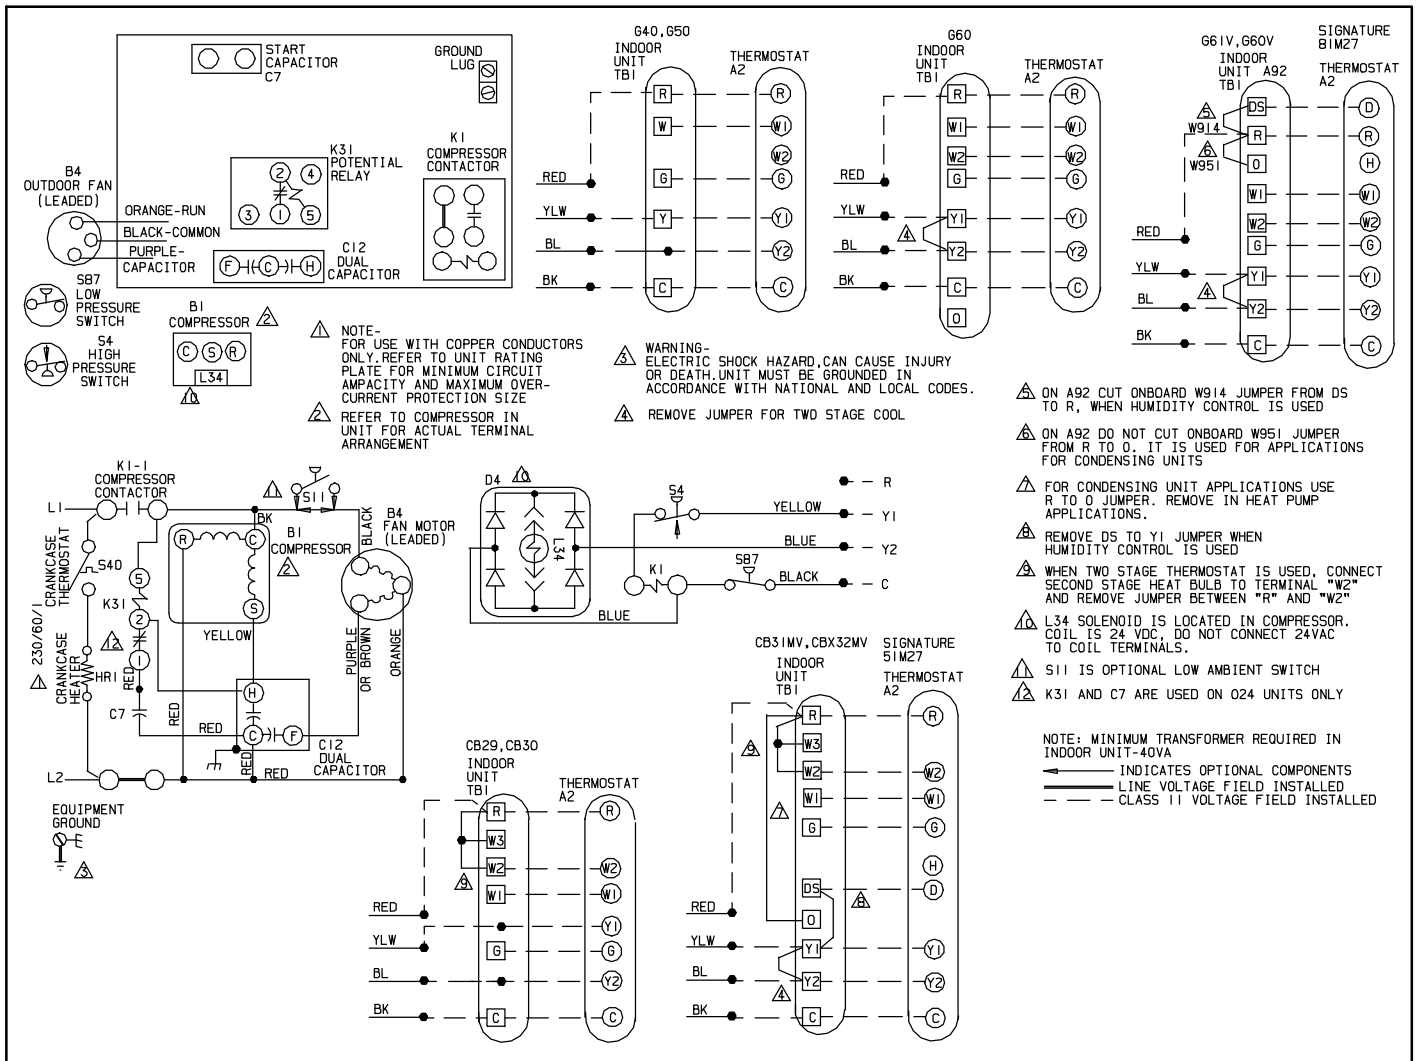

Figure 1. Typical Wiring Diagram
*NOTE - Units are approved for use only with copper conductors. 24VAC, Class II circuit connections are made in the low voltage junction box. See figure 3 for field wiring and figure 1 on page 15 for typical wiring. A complete unit wiring diagram is located inside the unit control box cover.*